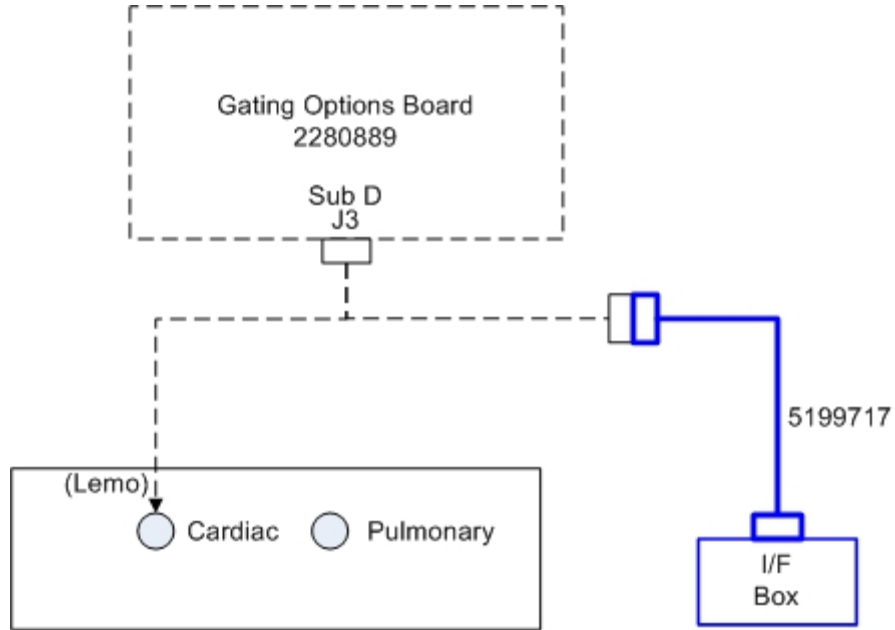

FIGURE 4-2: CONNECTIONS FOR CT SYSTEMS WITH AN STC
1. Attach cable 5199717 according to Figure 4-2 and 4-3.